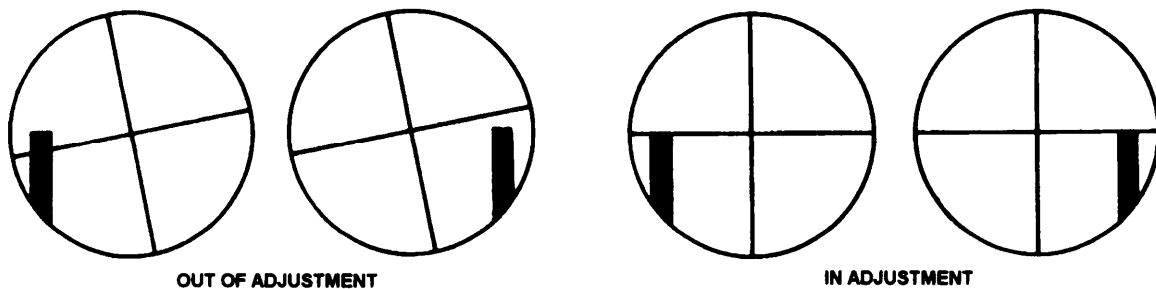

Figure 6-2.—Adjusting the horizontal cross hair.
**ADJUSTING THE HORIZONTAL CROSS HAIR.**— For the horizontal cross hair to lie in a truly horizontal plane when the instrument is leveled, the horizontal cross hair must be perpendicular to the vertical axis. To make the horizontal cross hair (fig. 6-2) lie in a plane perpendicular to the vertical axis, you should perform the following steps: